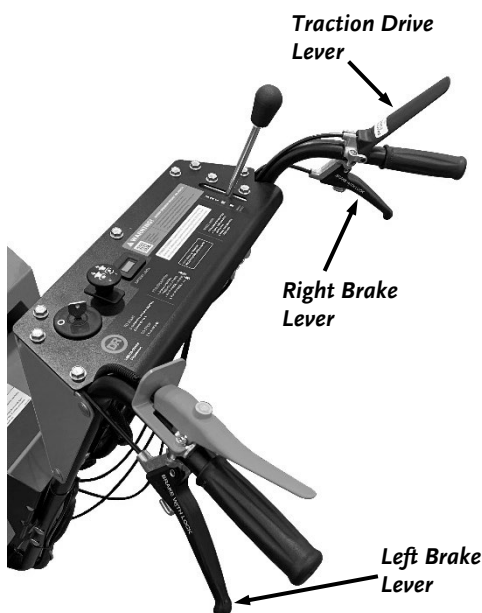

Figure 20
2. Press down on the Traction Drive Lever to drive the machine (**Figure 20**).